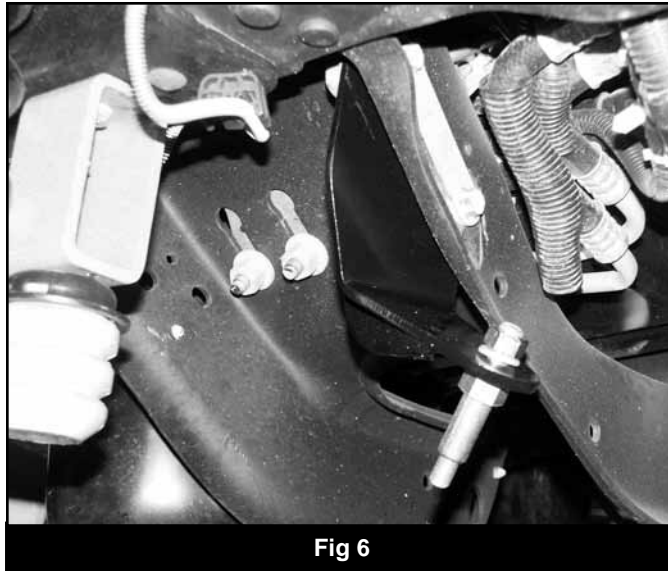

Fig 6
12. Install the new steering stabilizer bracket to the frame using the original hardware (Fig 6). Mount the stabilizer bracket to the back side of the frame crossmember in the original mounting holes. Torque hardware to 55 ft-lbs.
13. Install the provided shock stud in the new stabilizer bracket up through the bracket so that the stud points down (Fig 6). Torque to 50 ft-lbs.